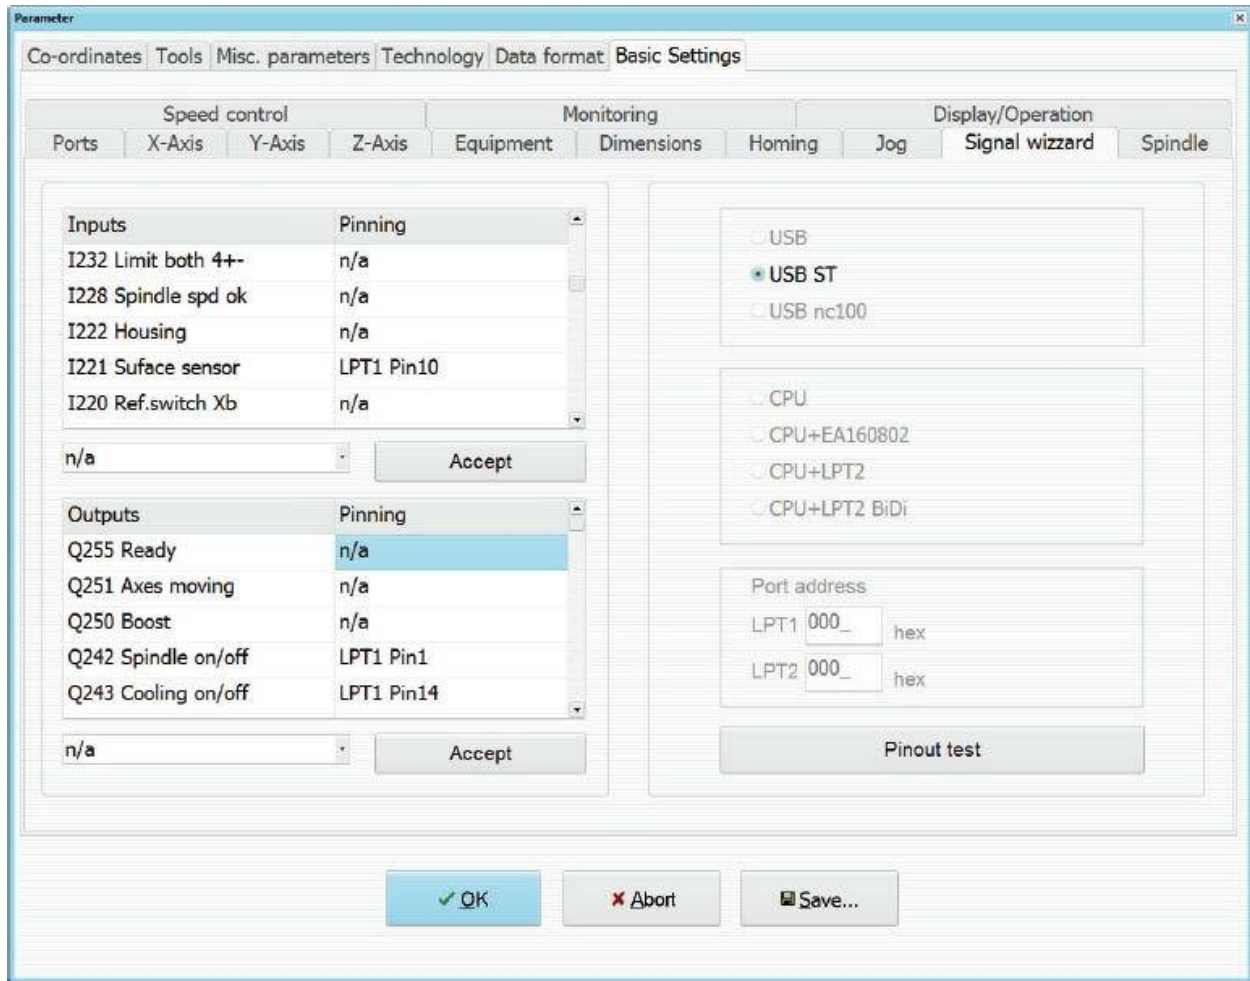

Fig. 5.24 Assigning the sensor signals
2. Open WinPC-NC and navigate to the *Parameters* → *Machine parameters* tab. Click the *Signals* button. Navigate to the *I221 Surface sensor* entry in the *Inputs* list. Make sure that *LPT1 Pin10* is selected in the drop-down list, as shown in figure 5.24.